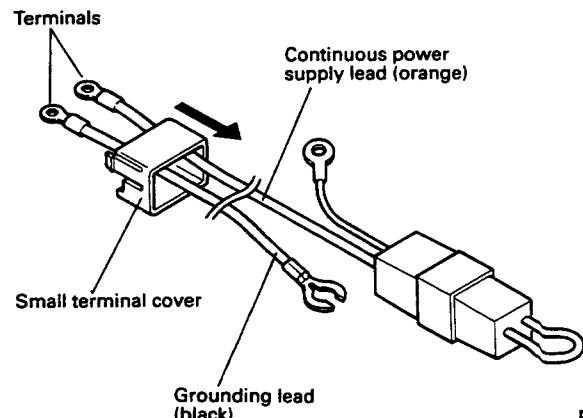

Fig. 9
- Pass the continuous power supply lead (orange) and the grounding lead (black) through the small terminal cover. (Fig. 9)